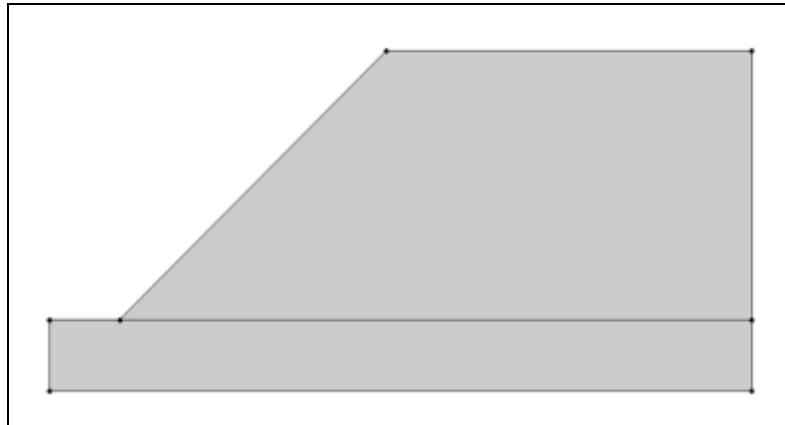

Figure 1 The basic slope
11. Using Figure 1 as a guide, click on the points to connect them with arcs to create the slope.
At this point, the user should see something like Figure 1 below.